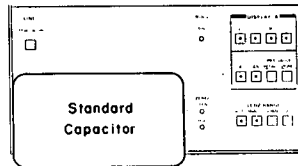

Figure 5-13. A1 Range Resistor Phase Adjustment.
- c. Connect 10pF Standard Capacitor (16382A) to 4274A as shown in Figure 5-13 and adjust A1C11 (100kΩφ) until display counts are within .0000μs±4% counts for Display A.